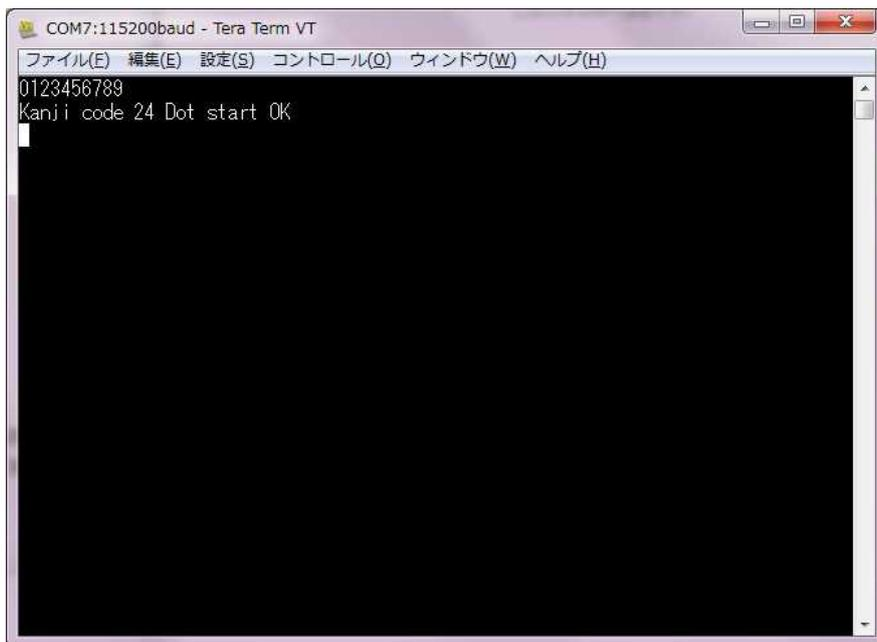

Fig. 5-1
- (1) First, copy the 24-dot font data file font24.bin in the CD-ROM attached to the starter kit to the root directory in the microSD card. The 24-dot font data file font24.bin includes the 12-24 dot half size font data (excluding half size Kana characters) and the 24-24 dot full size font data (JIS 1st and 2nd level Kanji.)
- (2) Check if the LCDC board power is OFF then insert the microSD card into the microSD card connector (CN2).
- (3) Turn on the LCDC board power then activate the communication software described in "4. Operation Checking Method."
- (4) Input the "0123456789," as shown in Fig. 5-1. Then, press the return key to transmit the characters. The character string that "Kanji code 24 Dot start OK" is returned from the LCDC board. Then, the string will appear on the screen of the communication software.